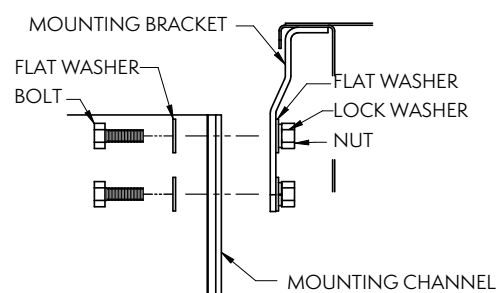

Figure 23 — Mounting Channel Installation
2. Use 3/8" (10mm) flat washers, lock washers and nuts to secure the mounting channel to the bracket, as shown in **Figure 23**.